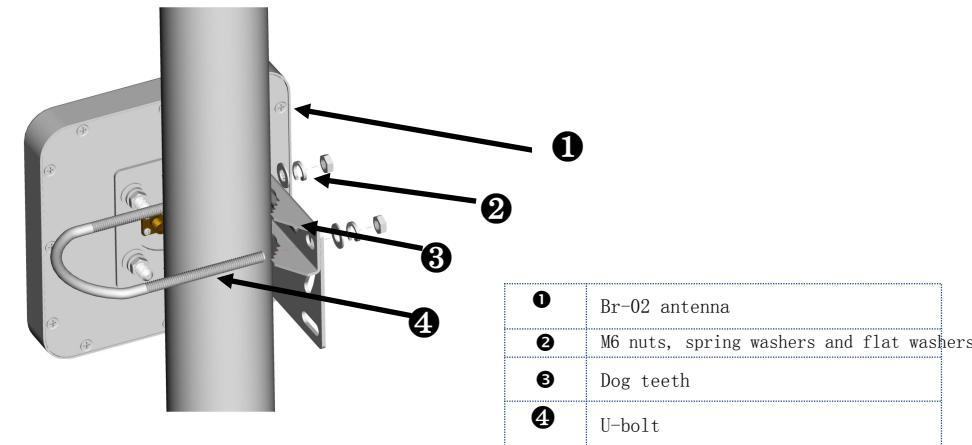

Figure 5 The BRA-02 antenna is installed on the pillar
Step 2: Use "M6 U-bolts, nut spring washers and flat washers" and "dog teeth" to fix the antenna on the vertical steel frame structure or pillar, as shown in Figure 5.